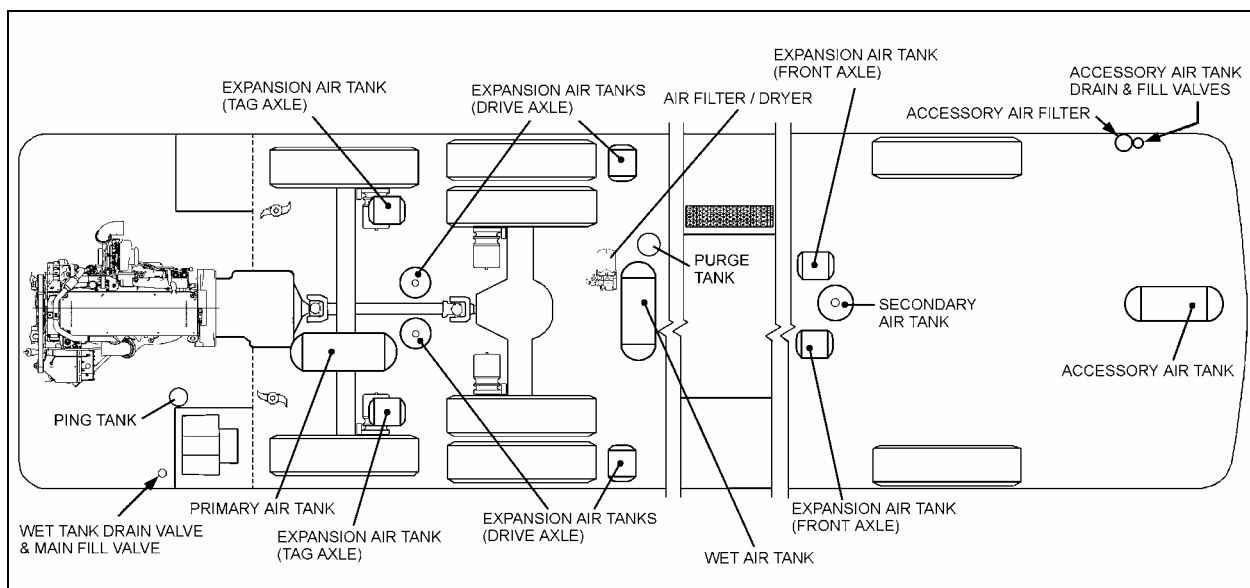

FIGURE 32: LOCATION OF AIR TANKS
2. Loosen the clamp on the height control valve rubber coupling and bring it up or down (Fig. 32).